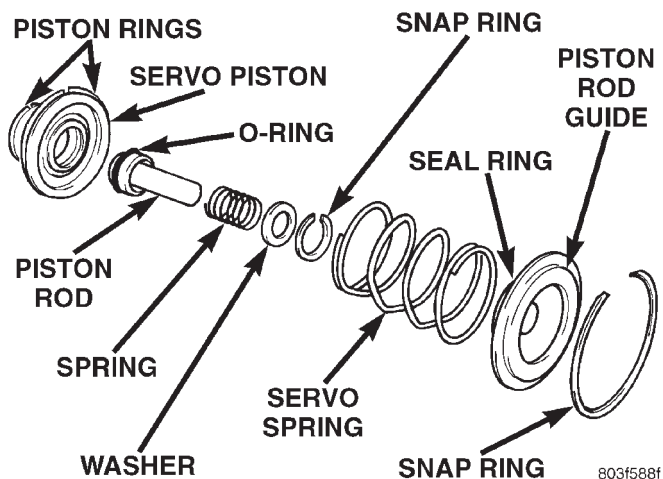

Fig. 154 Front Servo
(1) Remove seal ring from rod guide (Fig. 154).
(2) Remove small snap ring from servo piston rod. Then remove piston rod, spring and washer from piston.
(3) Remove and discard servo component O-ring and seal rings.
(1) Lubricate new O-ring and seal rings with petroleum jelly and install them on piston, guide and rod.
(2) Install rod in piston. Install spring and washer on rod. Compress spring and install snap ring (Fig. 154).